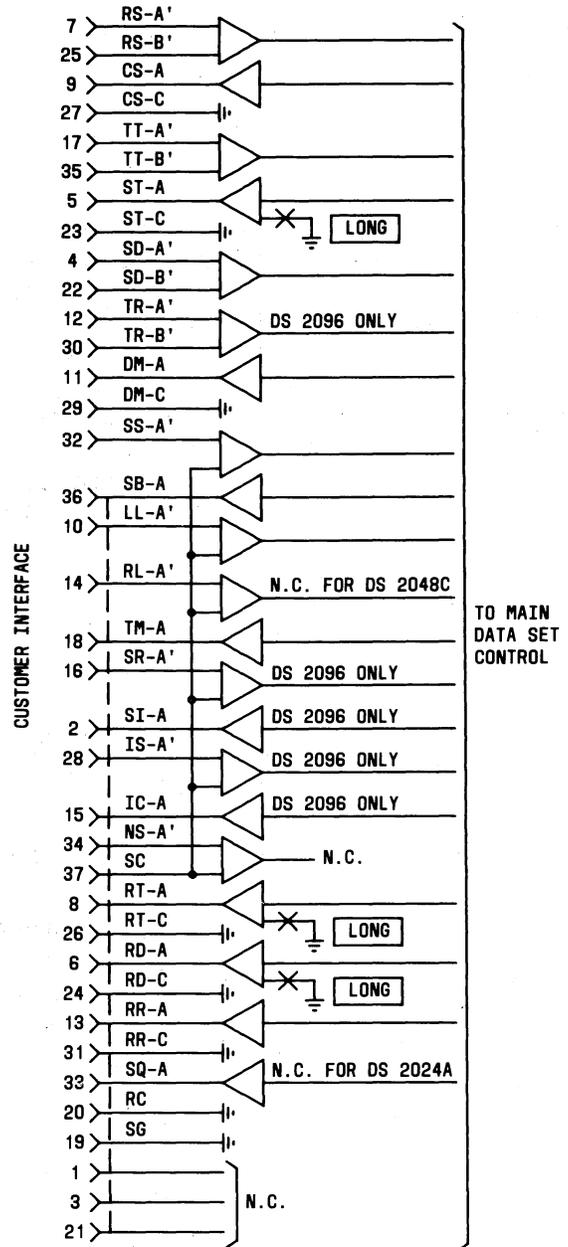

Fig. 13—EIA Customer Interface Circuits
**3.13** Figure 13 shows the customer interface circuits. All drivers and terminators are provided in all data sets even if they are not used in a particular type of data set (such as DS 2024A). The switches shown on circuits ST, RT, and RD are provided to increase the rise time of the waveform thereby allowing greater cable lengths.